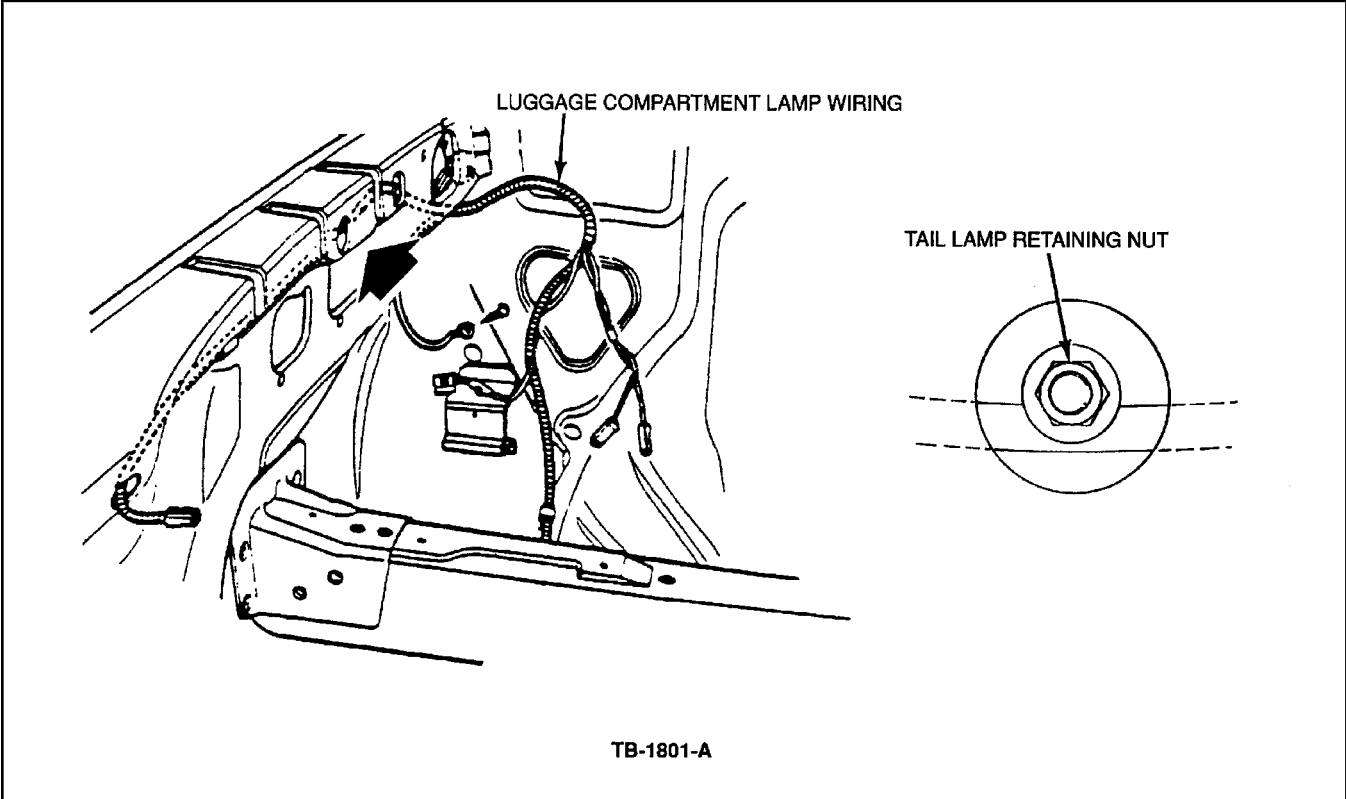

Figure 1 - Article 90-19-11
3. Using a shop light, inspect the courtesy lamp switch wiring to see where it is trapped, Figure 1.